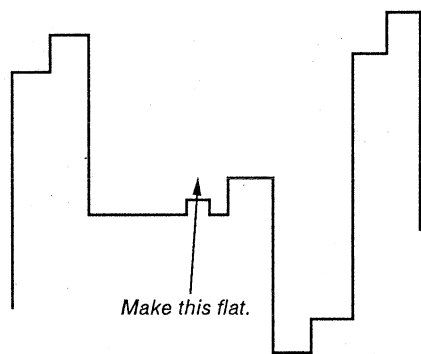

Fig. 18
- 5) Adjust **PHASE NTSC 443 NOR** so that the output waveform burst section is a straight line. (Fig. 18)